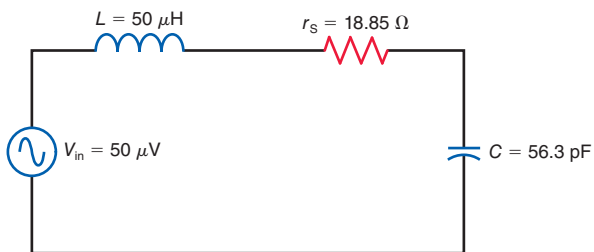

Figure 22-18
22.21 In Fig. 22-18, calculate the following: